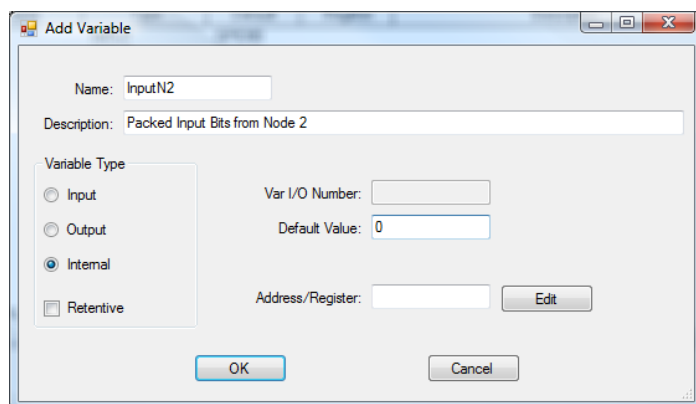

Figure 2-13 - Add Variable Dialog
2. Click the **ADD** button. The *Add Variable* dialog will open. Enter a name for the variable. This should be something useful. For example, the inputs register for Expander ID 2 could be *InputsN2*. You may enter a description for further explanation. Refer to Figure 2-13.